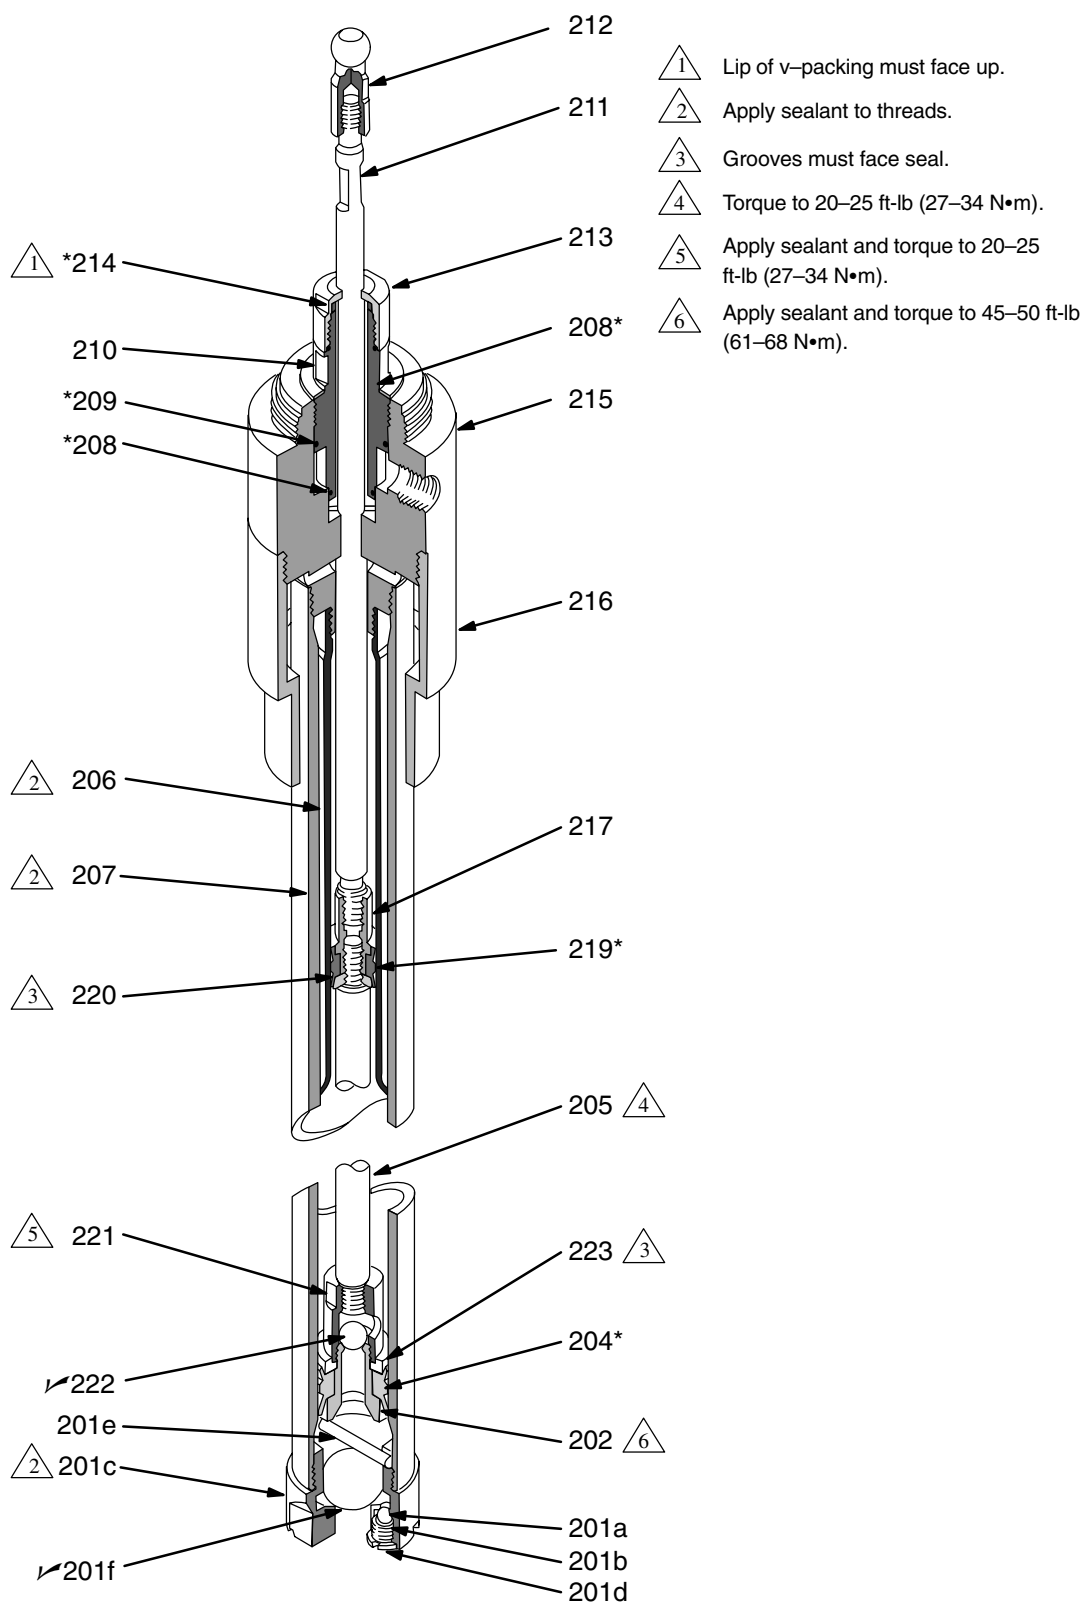

Fig. 2
Disassembly (See Fig. 2)
2. Unscrew the intake valve housing (201c) from the outer displacement cylinder (207). Remove the pin (201e) and ball (201f✓) from the valve housing (201c). Screw the relief valve housing (201d) out of the intake valve housing and remove the spring (201b) and ball (201a). See Fig 2. Thoroughly clean all the parts, inspect for wear or damage and replace as necessary.
3. Using wrenches on the flats of the upper piston rod (211) and connecting rod (212), screw the connecting rod off the piston rod.
4. Remove the packing retainer (213) and the packing (214). Remove the o-ring (208). Push down on the upper piston rod (211), grasp the fluid piston (202) and pull the piston and piston rod out through the bottom of the pump. See Fig 2.
5. Screw the fluid piston (202) out of the piston valve housing (221) and remove the backup washer (223), seal (204), and ball (222✓). See Fig 2. Thoroughly clean all the parts, inspect them for wear or damage, and replace as necessary.
6. Unscrew the lower piston rod (205) from the displacement piston (217) and upper piston rod (211). Remove the backup washer (220), and seal (219). Thoroughly clean all the parts, inspect them for wear or damage, and replace as necessary.
7. Using a strap wrench, screw the bung adapter (216) off of the pump outlet housing (215).
8. Screw the outer displacement cylinder (207) and inner displacement cylinder (206) off the pump outlet housing (215). Check the inner surfaces of each cylinder for scoring or damage by running a finger over the surface or holding the part up to the light at an angle. Replace as necessary.
9. Screw the pump housing (210) out of the pump outlet housing (215). Remove the o-rings (208 and 209).
Reassembly (See Fig. 2)
1. Install the two o-rings (208* and 209*) on the pump housing (210). Screw the pump housing into the pump outlet housing (215) and tighten securely.
2. Apply sealant to the threads of the inner displacement cylinder (206) and screw it onto the pump outlet housing (215). Do the same with the outer displacement cylinder (207).
3. Screw the bung adapter (216) onto the outlet housing (215) with a strap wrench.
4. Install the seal (219*) on the displacement piston (217). See Fig 2. Install the backup washer (220) with the groove facing up toward the seal. Apply medium strength adhesive to the top threads of the lower piston rod (205) and screw the rod into the displacement piston (217). Torque to 20–25 ft-lb (27–34 N.m).
5. Install the seal (204*) on the fluid piston (202). Install the backup washer (223) with the groove facing down toward the seal. Apply sealant to the threads of the piston (202) and piston valve housing (221). Place the ball (222✓) on the piston seat, and screw the piston into the housing. Torque to 45–50 ft-lb (61–68 N.m).
6. Carefully insert the upper piston rod (211) into the bottom of the pump and push it all the way up until its top flats protrude from the pump housing (210). See Fig 2. Install the o-ring (208*) on the pump housing (210). Slide the packing (214*) onto the upper piston rod (211), with the lips of the packing facing up. Screw the packing retainer (213) onto the pump housing (210) and tighten securely.
7. Apply adhesive to the top threads of the upper piston rod (211). Using wrenches on the flats, screw the connecting rod (212) onto the upper piston rod.
8. Install the spring (201b) and ball (201a) on the relief valve housing (201d), and screw the valve into the intake valve housing (201c). Place the ball (201f✓) in the intake housing (201c), and install the stop pin (201e). Apply sealant to the threads of the intake valve housing (201c) and screw it into the outer displacement cylinder (207).
9. Lay the pump on its side and reconnect the ball of the connecting rod (212) with the socket in the air motor piston rod. Tighten the air motor connecting ring.